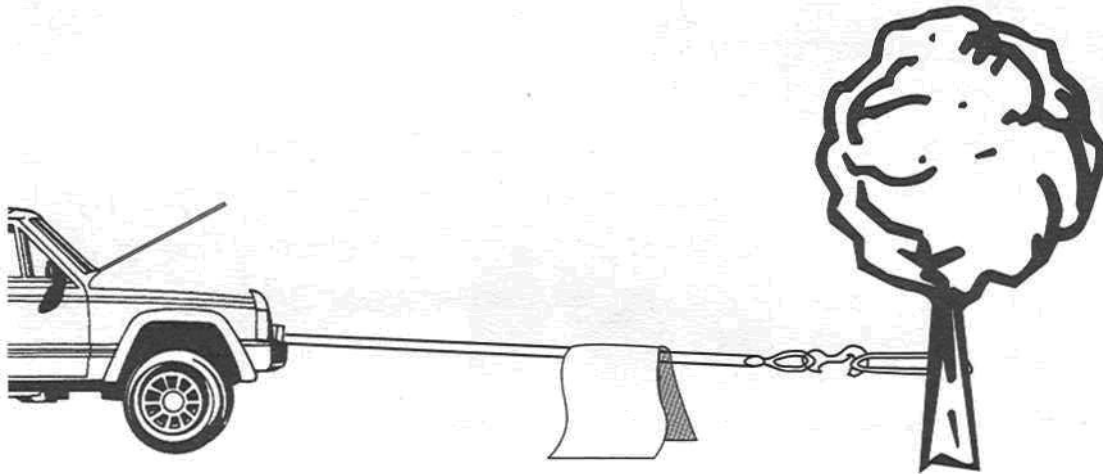

Figure 8
- It is recommended to lay a heavy blanket or jacket over the rope about halfway along to the hook attachment. If a rope failure should occur, the weight of the cloth will act as a damper and help prevent the broken rope from whipping (See Figure 8 Below). Remember to move the blanket or jacket as winching proceeds, but halt winching when doing so. Partially raising the hood of the vehicle will also give a measure of protection to its occupants from broken rope or cable, consistent with sufficient forward visibility for the operator.